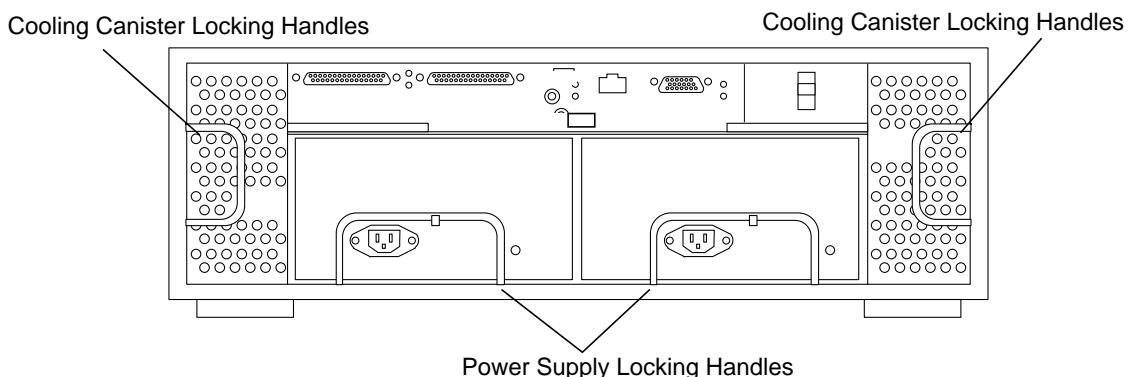
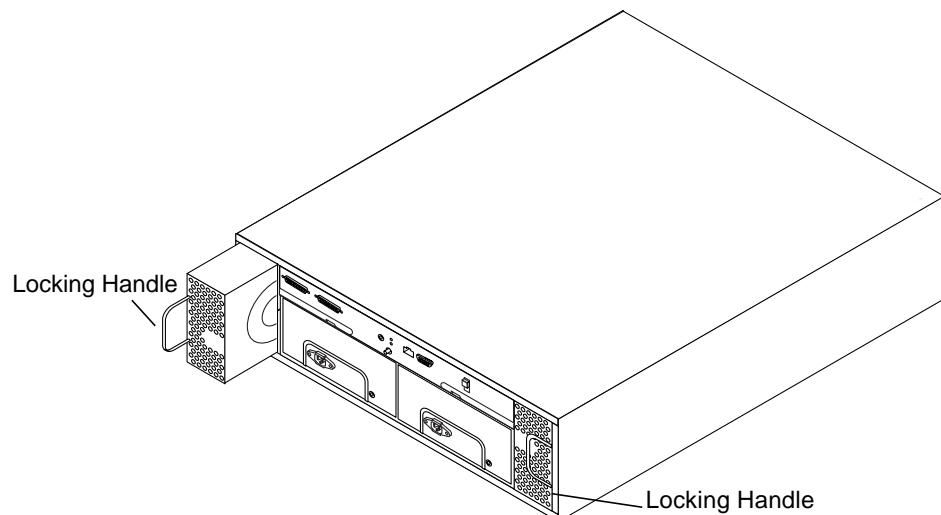

FIGURE 3-2 Rear of Sun StorEdge A1000 System
FIGURE 3-3 Removing and Replacing a Cooling Canister
1. **Release the locking handle and pull the cooling canister out (FIGURE 3-2 and FIGURE 3-3).**
You cannot remove the power supply without first disconnecting the power cord. See FIGURE 3-2. and FIGURE 3-3 for the positions of the power connector and locking handle.
1. **Locate the battery on the back of the unit. See FIGURE 3-2.**